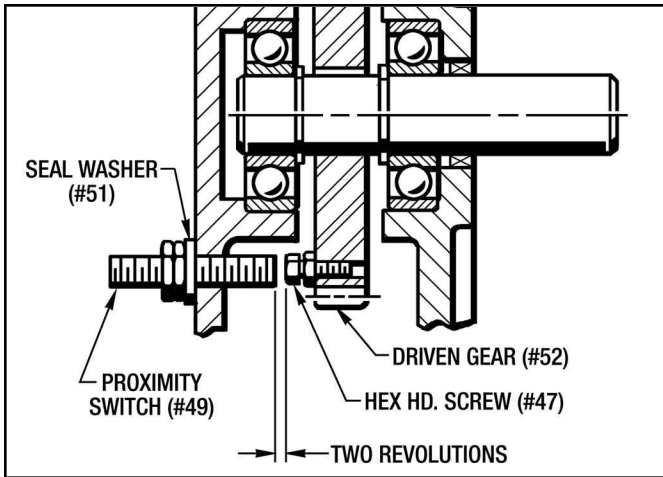

Figure 4.5 - Installing Proximity Switch (#49)
(See Figure 4.5)
4. Attach the top segment of the Starwheel Coupling with the (6) Screws and Lockwashers. **Torque to 27 Lb. Ft. (38 Nm)** in an even manner and pattern shown in *Figure 4.5.* Make sure the L.H. Gap and the R. H. Gap between the top segment and the bottom segment is the same on both sides as shown in *Figure 4.5.*